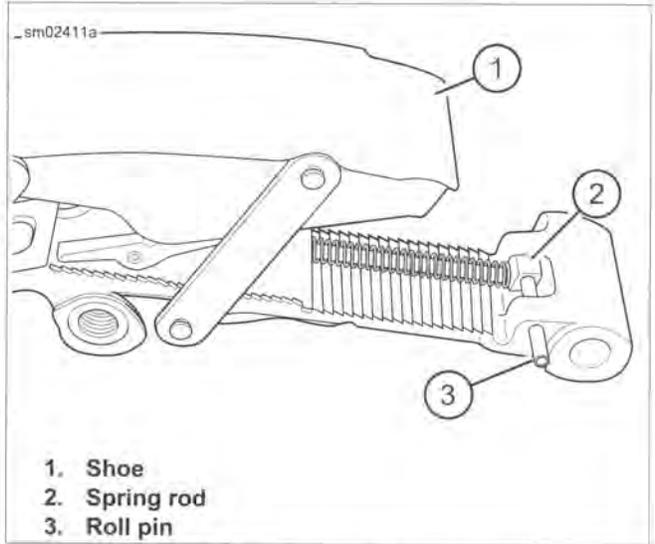

Figure 5-15. Spring Rod Location
- a. See Figure 5-15. Locate end of spring rod (2) on roll pin (3).